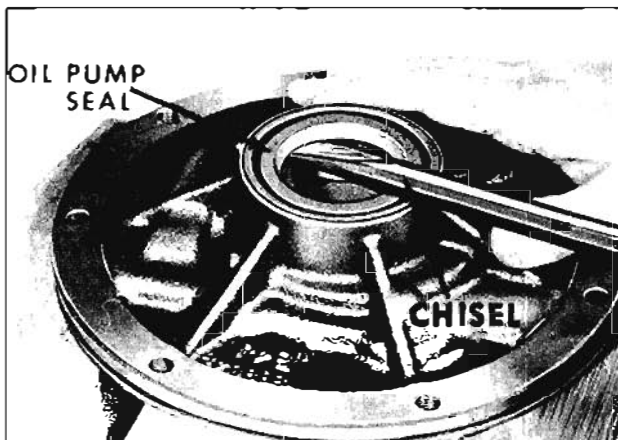

Fig. 6-330 Removing Oil Seal
12. Examine oil pump seal. If nicked, torn or worn, remove seal as follows. Support oil pump body on wood blocks. Remove oil seal with a chisel and discard. (Fig. 6-330)